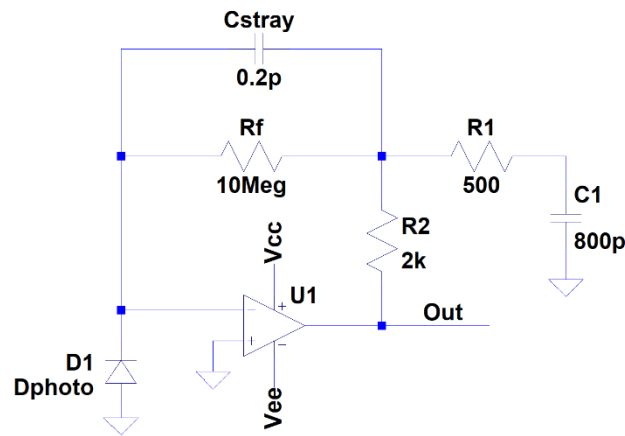
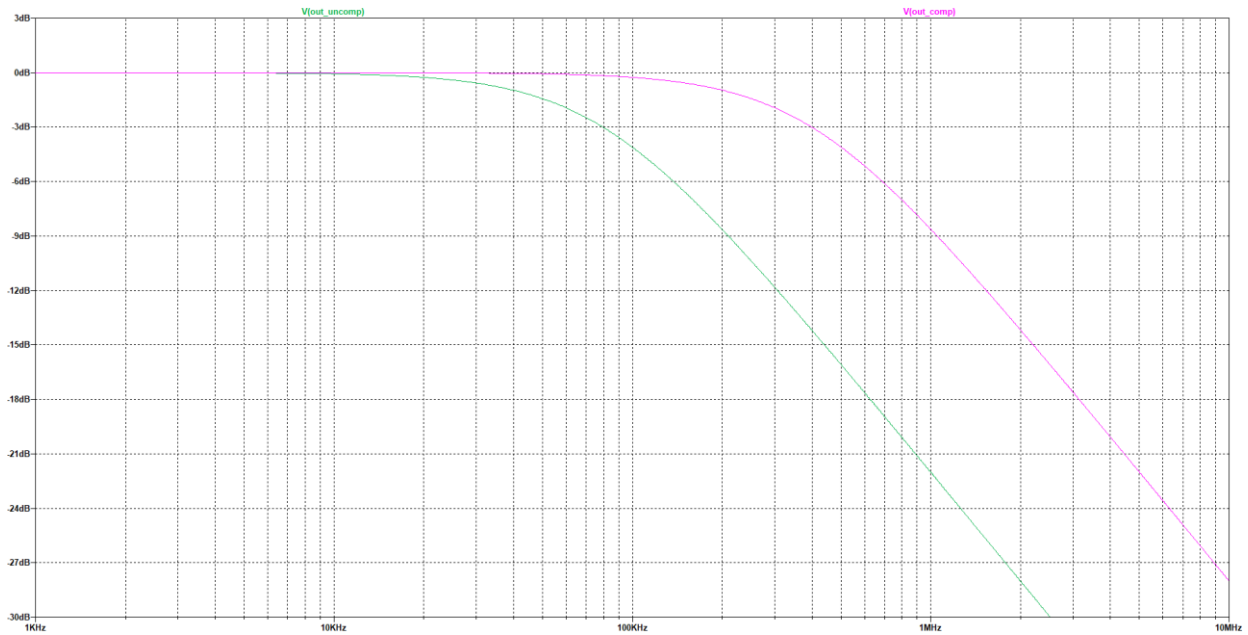

Figure 5: High-Gain TIA with Compensation (Note that D1 can be modeled as a current source with C_{pd} in parallel)
Figure 6: Magnitudes of Uncompensated Op Amp of Figure 1 and Compensated Op Amp of Figure 5
3. Pole/Zero Compensation: See Figure 5. This is somewhat similar in appearance to the resistive Tee network, but with the addition of a capacitor, C1. C1 ensures that at low frequencies, the compensation network is not active.
With this method, bandwidth extension may be controlled by the correct selection of the three new components, R1, R2, and C1. The “trick” here is to make the time constant of the new network close to the feedback network time constant to partly-compensate for the $R_f C_f$ pole. The RC time constant of the feedback network is $R_f \times C_{stray}$ which, in Figure 5, equals $2\mu s$. The time constant of the extra three components, R1, R2, and C1 is $(R1 + R2) \times C1$, which here also equals $2\mu s$. The amount of bandwidth extension is approximately $1 + (R2/R1)$. With the values in Figure 5, there is approximately a five-fold bandwidth extension. (See Figure 6 for a bandwidth comparison of the uncompensated op amp [green] with the compensated op amp [pink].)
Please remember that as noted in 1.a above some amount of C_f is needed for stability, so don't completely cancel out C_{stray} ! For the circuit values shown in Figure 5, with any appreciable C_{Pd} , the circuit may be unstable unless the amount of bandwidth extension is still rolled off at higher frequencies with a useful value of C_f .